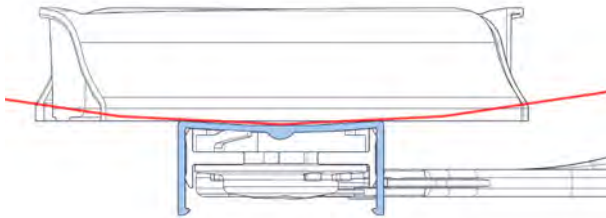

Fig. 23.3.3-1.1
- Concave channel where clip mates. *Refer to Figure 23.3.3-1.1.*